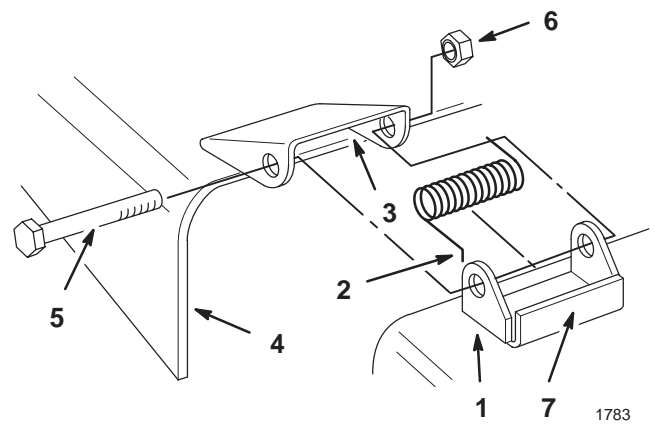

Figure 3
- Place the springs into the brackets on mower with the hooked ends over the raised back (Fig. 3).
- Align the grass deflector with the holes in the brackets and the spring straight end in the space under the hinge and above the deflector (Fig. 3).
- Secure the deflector to the bracket with 2 bolts (3/8 x 3-1/2 inch) and 2 locknuts (3/8 inch) (Fig. 3).